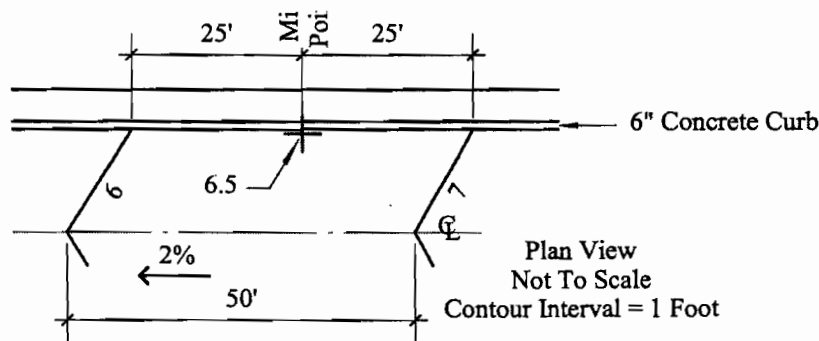

Figure 3-43. Mid-Point With Mid-Point Elevation
Step 1. Find the mid-point between contour lines 6 and 7 by scaling. Place a tick mark at that point. This should be done with a scale and with care to assure reasonably accuracy. On the plan, write the elevation at the tick mark. In this example, the elevation will be 6.5, which is halfway between 6 and 7 as shown in Figure 3-43.